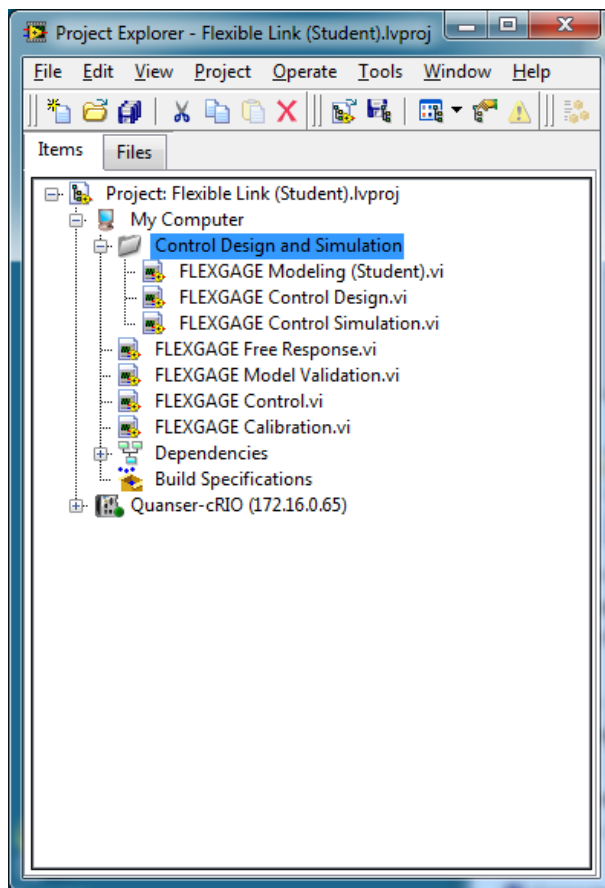

Figure 4.1: Flexible Link LabVIEW Project (Student version).
2. Open the LabVIEW project called *Flexible Link (Student).lvproj* shown in Figure 4.1.